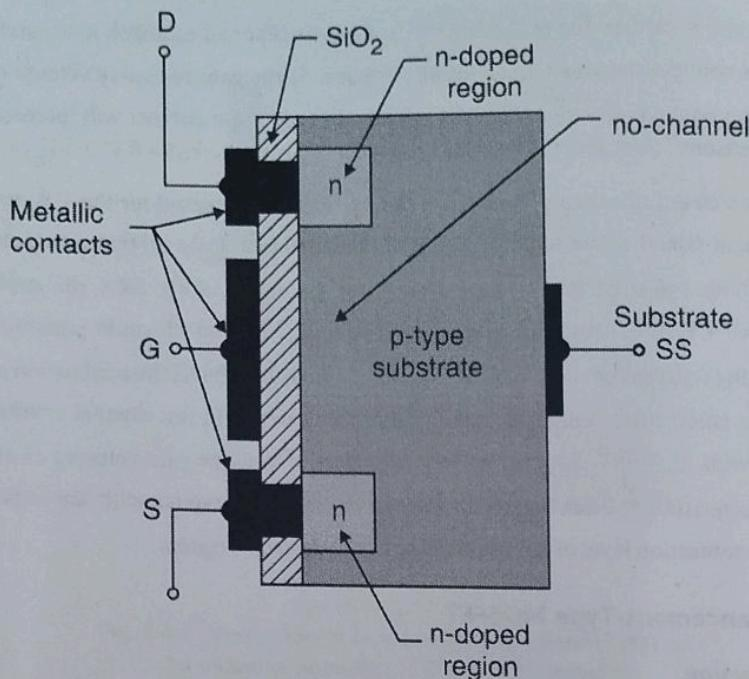

Fig. 5.4.5 : n-Channel enhancement-type MOSFET
- The basic construction of the n -channel enhancement-type MOSFET is provided in Fig. 5.4.5. As a slab of p -type material is formed from a silicon base and is again referred to as the substrate. As with the depletion-type MOSFET, the substrate is sometimes internally connected to the source terminal, whereas in other cases a fourth lead (labelled SS) is made available for external control of its potential level. The source and drain terminals are again connected through metallic contacts to n -doped regions, but in Fig. 5.4.5 the absence of a channel between the two n -doped regions. This is the primary difference between the construction of depletion-type and enhancement-type MOSFETs—the absence of a channel as a constructed component of the device. The SiO_2 layer is still present to isolate the gate metallic platform from the region between the drain and source, but now it is simply separated from a section of the p -type material. Therefore, we can say that the construction of an enhancement-type MOSFET is quite similar to that of the depletion-type MOSFET, except for the absence of a channel between the drain and source terminals.
If V_{GS} is set at 0V and a voltage applied between the drain and the source of the device of Fig. 5.4.5, the absence of an n -channel (with its generous number of free carriers) will result in a current of effectively 0 A, whereas in case of JFET and MOSFET $I_D = I_{DSS}$. It is not sufficient to have a large accumulation of carriers (electrons) at the drain and the source (due to the n doped regions) if a path fails to exist between the two. With V_D some positive voltage, V_{GS} at 0 V, and terminal SS directly connected to the source, there are in fact two reverse-biased $p - n$ junctions between the n -doped regions and the p -substrate to oppose any significant flow between drain and source.